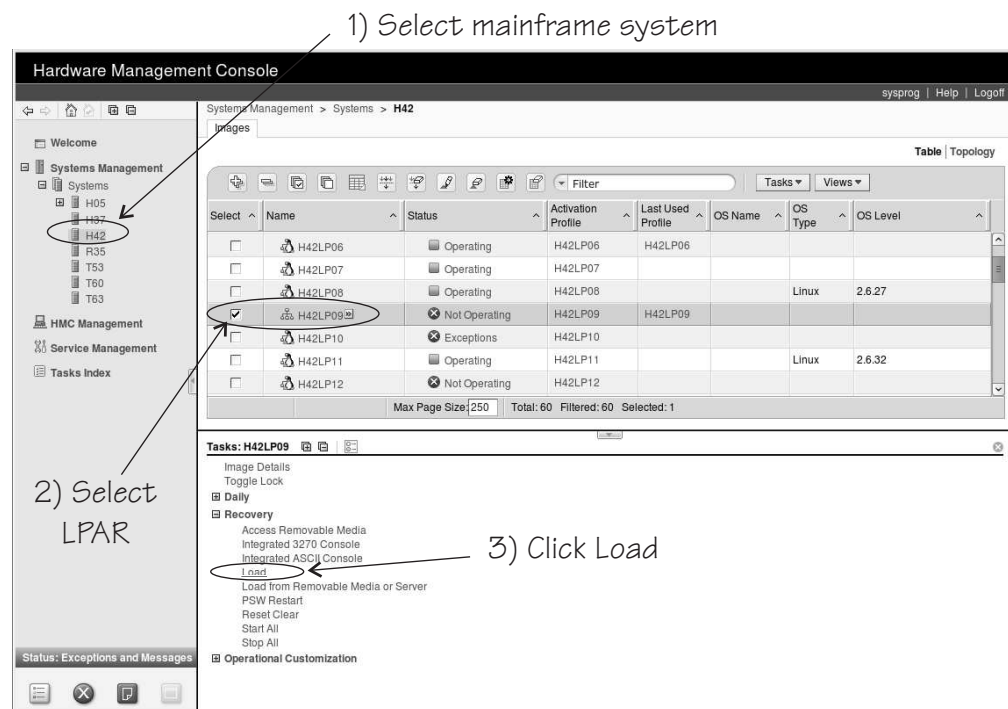

Figure 24. Load task on the HMC
3. In the **Tasks** area, expand **Recovery** and click **Load** (see Figure 24).